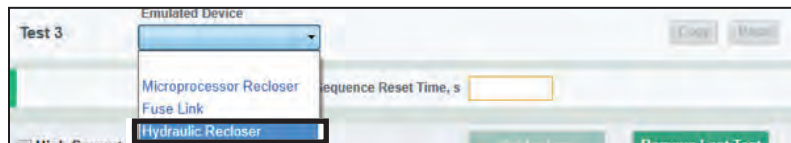

Figure 100. The Hydraulic Recloser option.
**Emulated Device.** Select the **Hydraulic Recloser** option from the **Emulated Device** pull-down menu. See Figure 100.